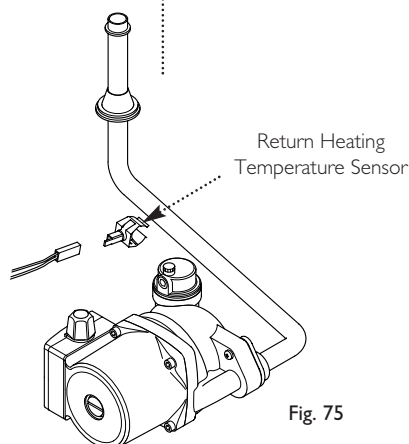

Fig. 75
14.12 Return Heating Temperature Sensor (Fig. 75)